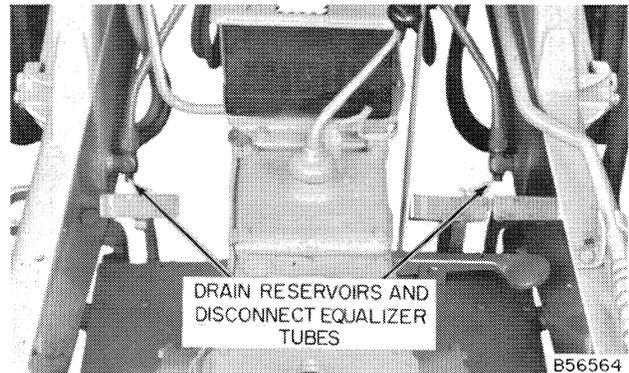

Figure 5
6. ON LOADER-BACKHOE MODELS - Remove the plugs from the elbows at the bottom of both the right hand and left hand reservoirs (See Figure 5) and allow the oil to drain into a suitable container.